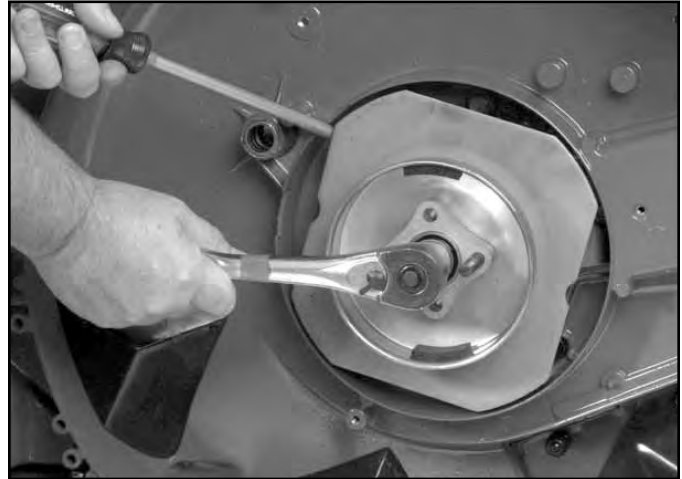

Fig 230
**CAUTION!** The two bumps on the pulley **MUST** engage the flywheel. If you do not have an impact wrench, this is where the two bumps become important. If you engage the bumps on the pulley into the flywheel, you can now wedge the flywheel and through the pulley and key, it will hold the crankshaft from rotating while you tighten the nut (Fig. 230).